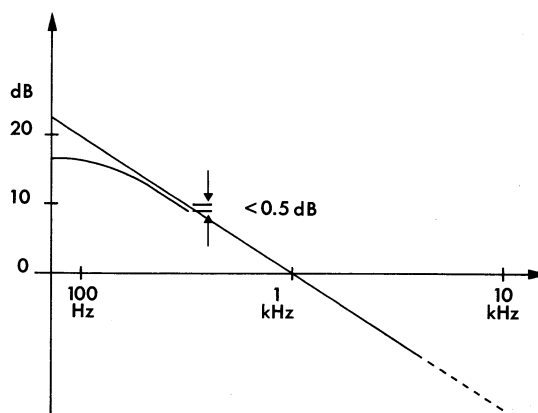

Fig.B1. Frequency response of the 6 dB/oct. filter.
6dB/oct. (ref. 1 kHz). For frequency response of filter, see Fig. B1.